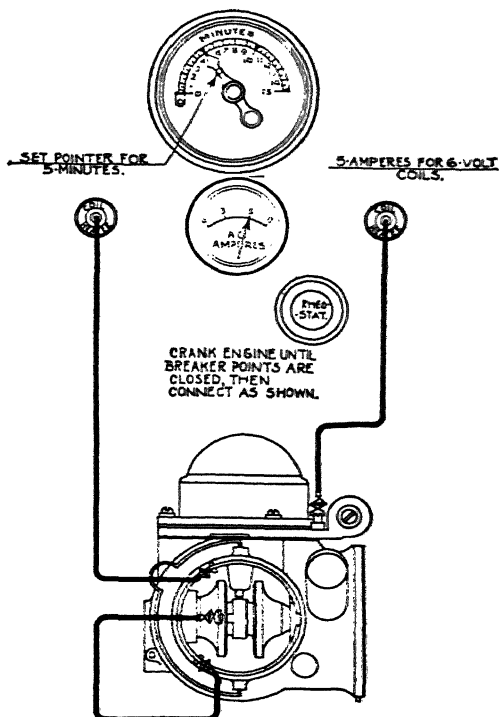
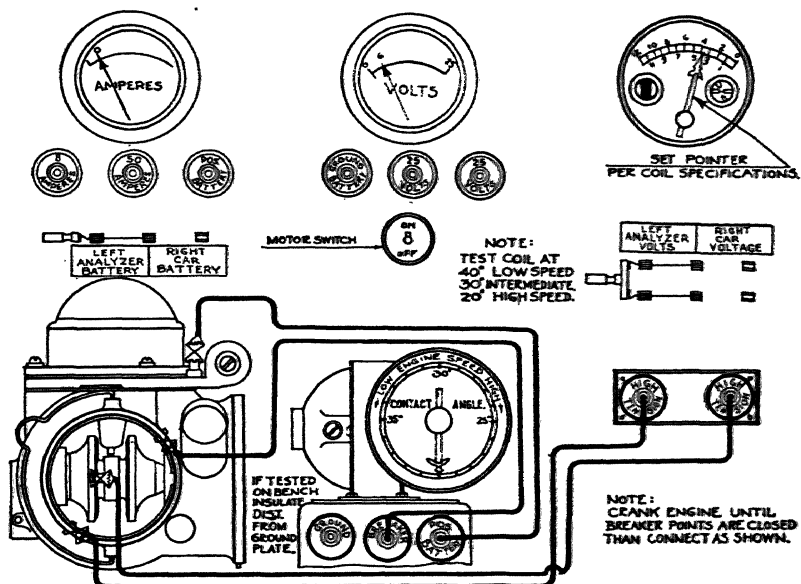

Fig. 21. Connections for Heating Ford "V-8" Coil While on Car
Fig. 22. Connections for Testing Ford "V-8" Coil While on Car
**Ford Coil.** The method of heating the Ford "V-8" coil is shown in Fig. 21. The connections for testing this coil are shown in Fig. 22. The same test procedure applies as for other coils.